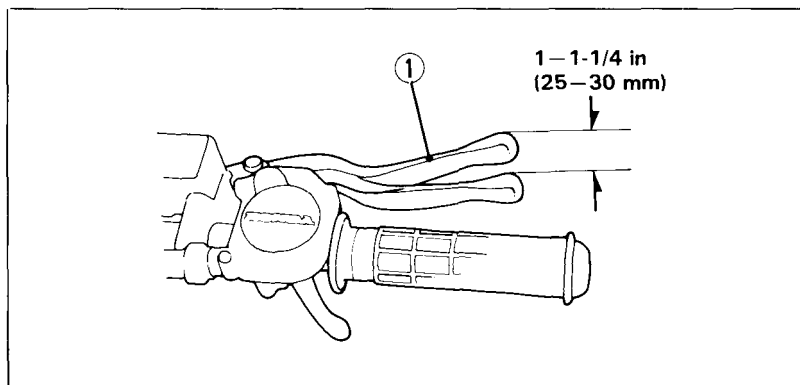

Fig. 4-21
1. Measure the distance the brake lever (Fig. 4-21) moves before the brakes start to take hold. Free play, measured at the tip of the front brake lever (1) should be within 1 – 1-1/4 in (25–30 mm).